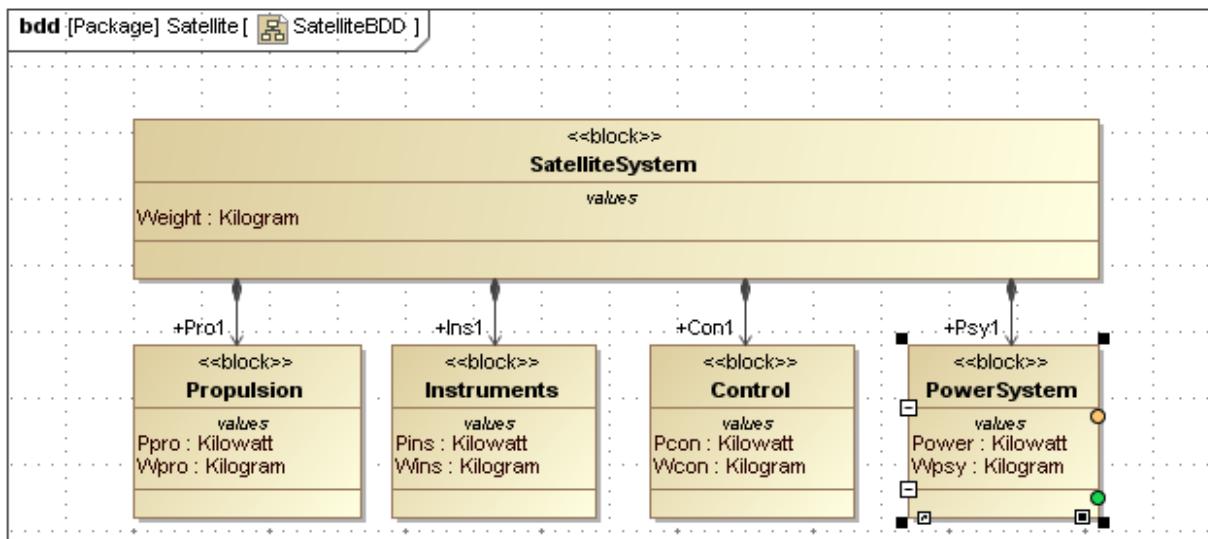

Figure 3.2 SysML Block Definition Diagram
- d. Repeat step b. for **Instrumentation**, **Control**, and **PowerSystem** subsystems with attribute names as shown in Figure 3.2
- h. Repeat steps f. and g. for **Instrumentation**, **Control**, and **PowerSystem** subsystems as shown in Figure 3.2.